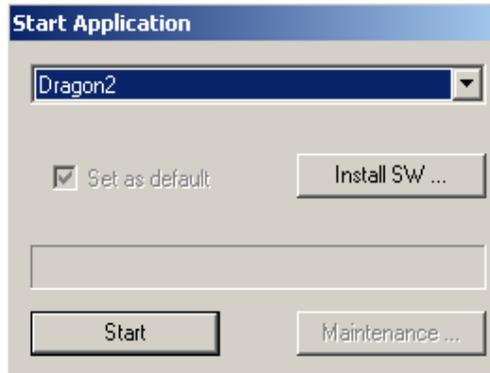

Figure 3-27 Start Application Window
- 4.) Power up the scanner. Wait for a dialog box like the one in Figure 3-27 on page 3-27 .